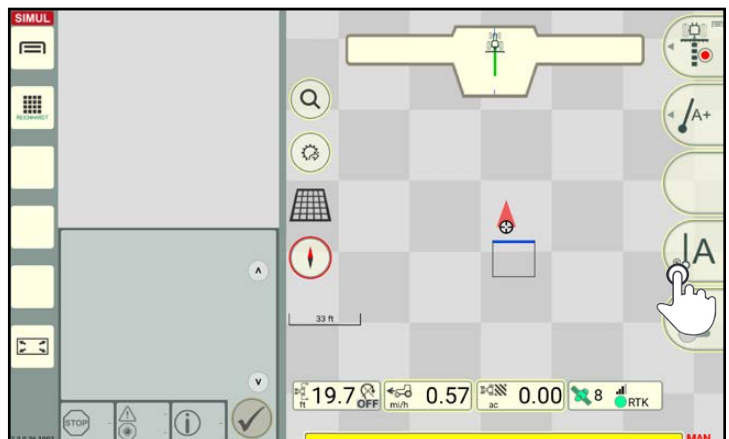

Fig. 98: Starting the reference track creation
-  Tap the "A" button to start the track creation (see Fig. 98).